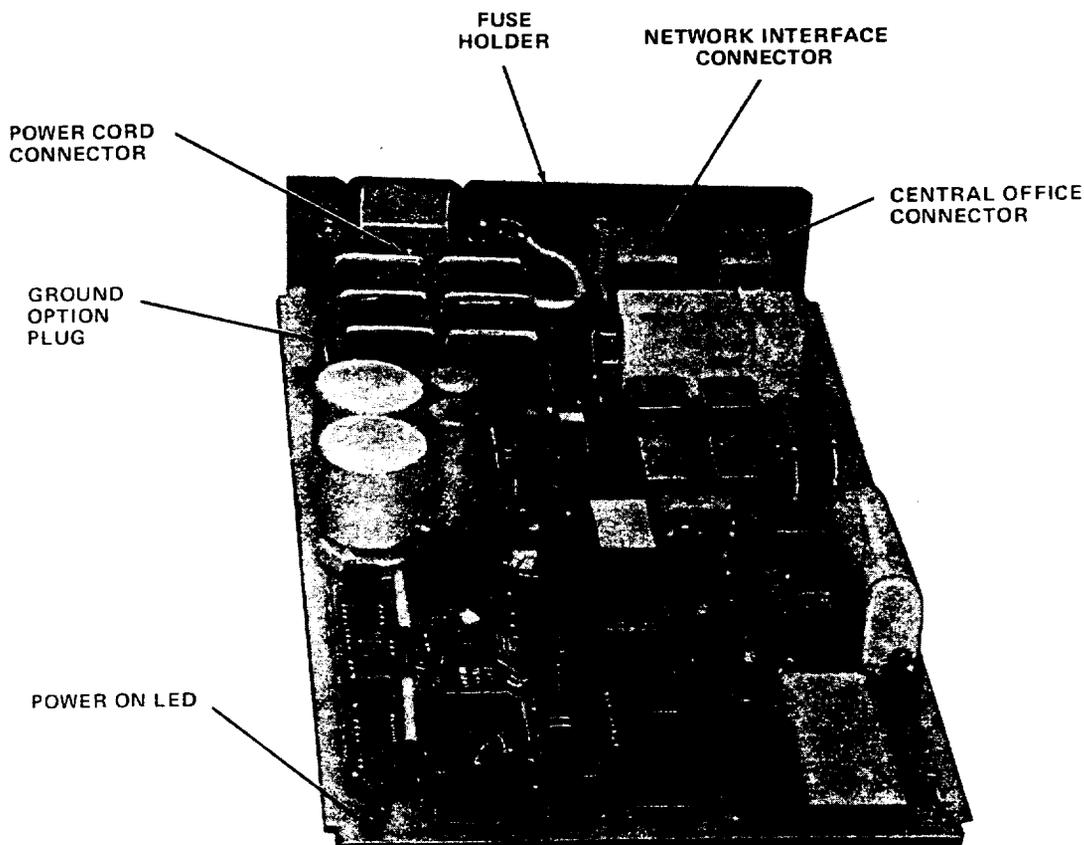

Fig. 1—554A-Type CSU—Cover Removed
2.01 The 554A-type CSU (Fig. 1) is provided with a signal-to-ground option. Specify on the service order or circuit layout record card (CLRC) if this option is to be installed or removed.